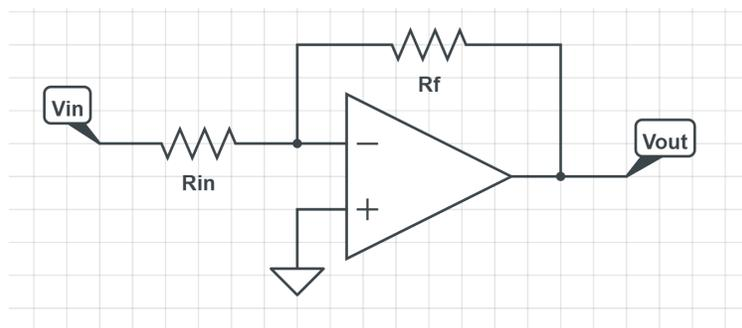

Figure 1: Inverting amplifier
5. We have an inverting amplifier with no reference voltage (non-inverting terminal is connected to GND) as shown in Figure 1. Please upload all of your work for this problem.